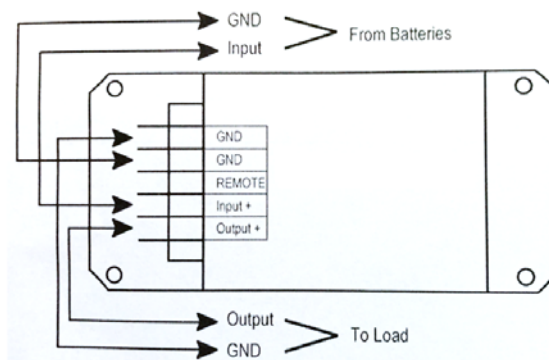

FIGURE 9
16. Use the electrical diagram shown in Figure 9 to verify the connections.